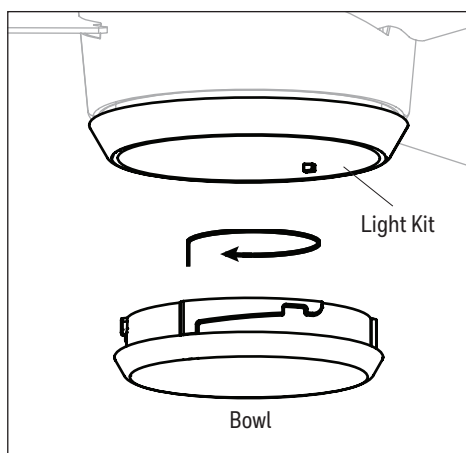

Figure 5.6
6. Attach the bowl to the light kit by twisting the bowl firmly in a clockwise direction until it is secure. **CAUTION:** Avoid cross-threading the bowl during installation. Improper installation could cause the bowl to be difficult to remove or fall, which could cause serious injury (Figure 5.6).